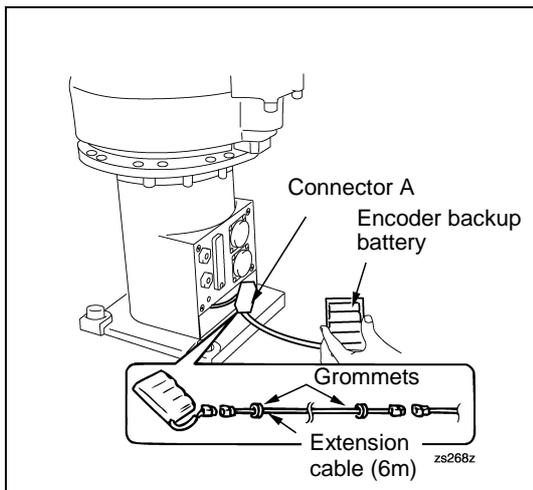

Figure 2-37
- (2) Remove the battery from the cover, then disconnect connector A and insert the extension cable to connector A. (See Figure 2-37.)